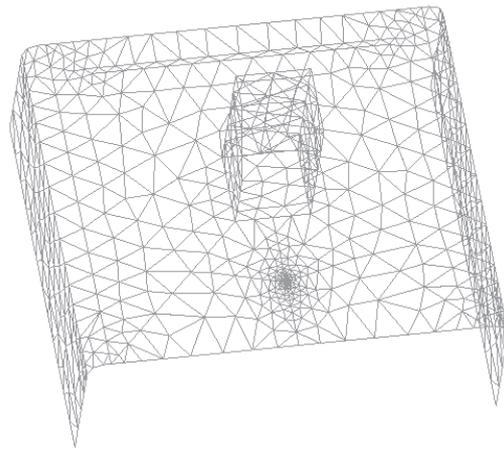

Figure 5. The mesh with a concentration of elements around the point.
- 7 . A concentration of elements appears around the chosen point, given the selected size (0.1) of these elements (see Figure 5).